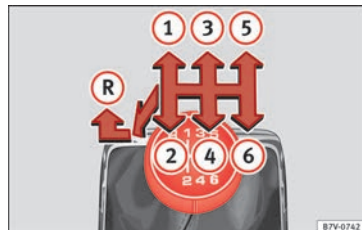

Fig. 47 Gear shift pattern of a 6-speed manual gearbox
The position of the gears is indicated on the gearbox lever » **Fig. 47**.
- » **Fig. 47** .